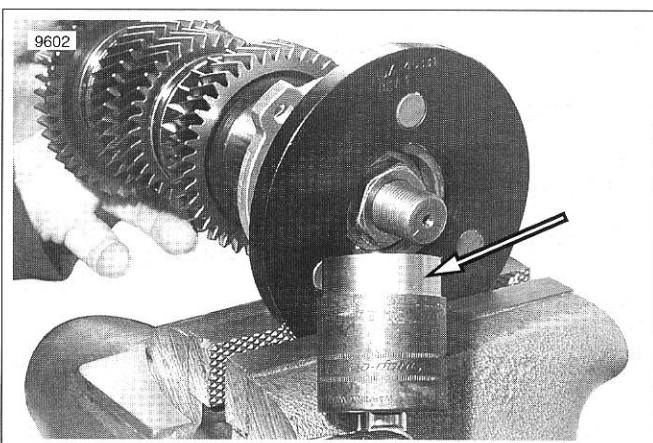

Figure 7-2. Modify Socket for Output Nut Removal
2. See Figure 7-2. Place output shaft in FINAL DRIVE SPROCKET FLANGE LOCKING TOOL (HD-45331) to remove the output shaft nut, use a 30 mm socket cut down to 39.6 mm (1.56 in.) to clear the flange.